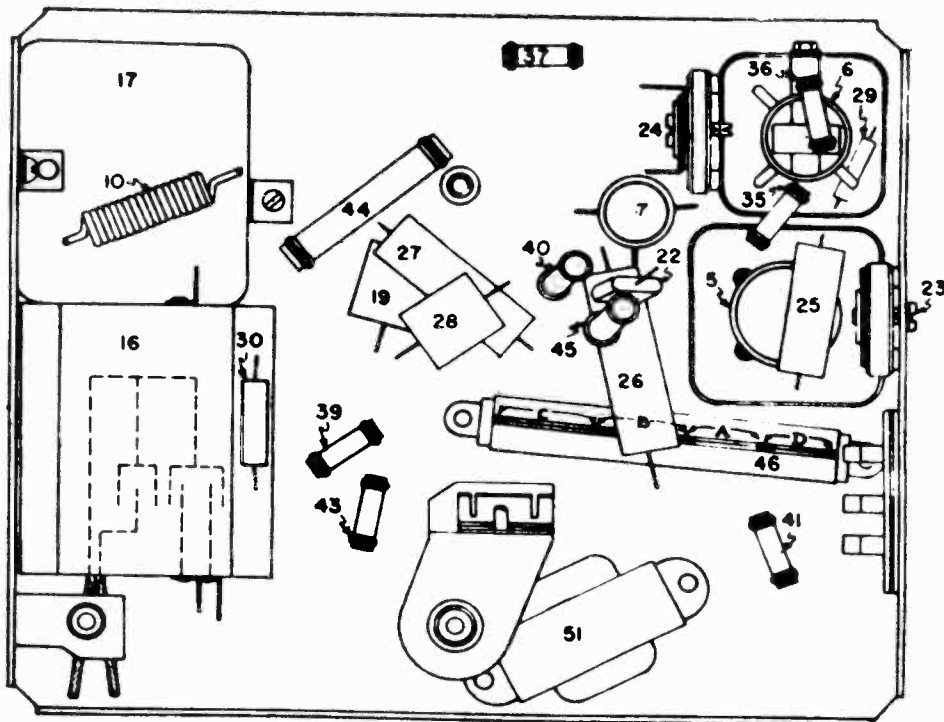

FIG. 3--PARTS LAYOUT--Bottom View
- (c) Adjust the oscillator tracking condenser (illus. #24 on Fig. 3) located on the bottom of the chassis until the 540 K.C. signal is tuned in with maximum output.
- (b) Adjust the antenna compensating condenser for maximum response from the broadcast station. This condenser is shown as Illustration #23 on Fig. 3 and is located immediately to the rear of the speaker plug on the side of the receiver case.